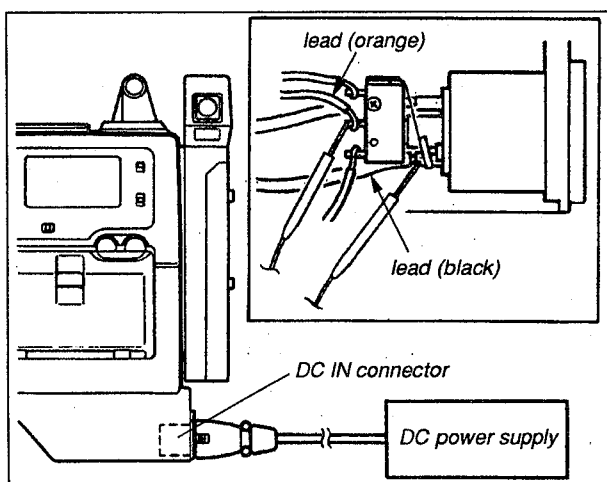

Fig.1
- Contact the lead tip of the digital voltmeter to the DC connector as shown in Fig.1, and adjust the voltage of the DC battery to be the desired value.